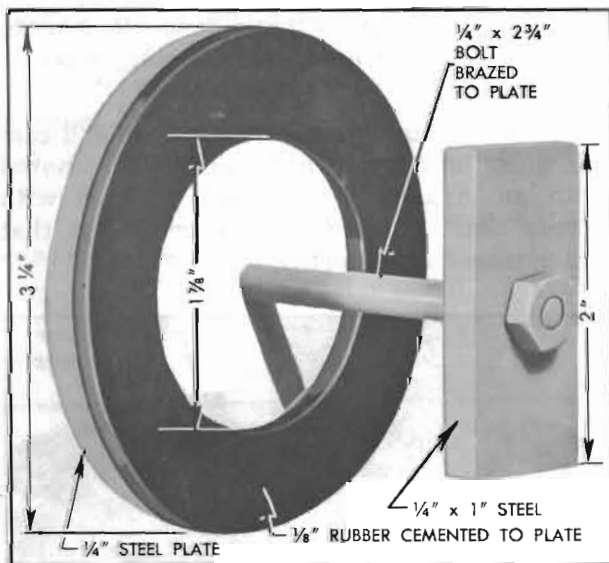

Figure 5-50—Plate and Washer for Pump Test
1. Prepare a plate with rubber washer to close the opening in converter pump hub, as shown in Figure 5-50. The bolt head should be brazed to the plate to seal the bolt hole, and the $\frac{1}{8}$ " thick rubber washer should be cemented to the plate.